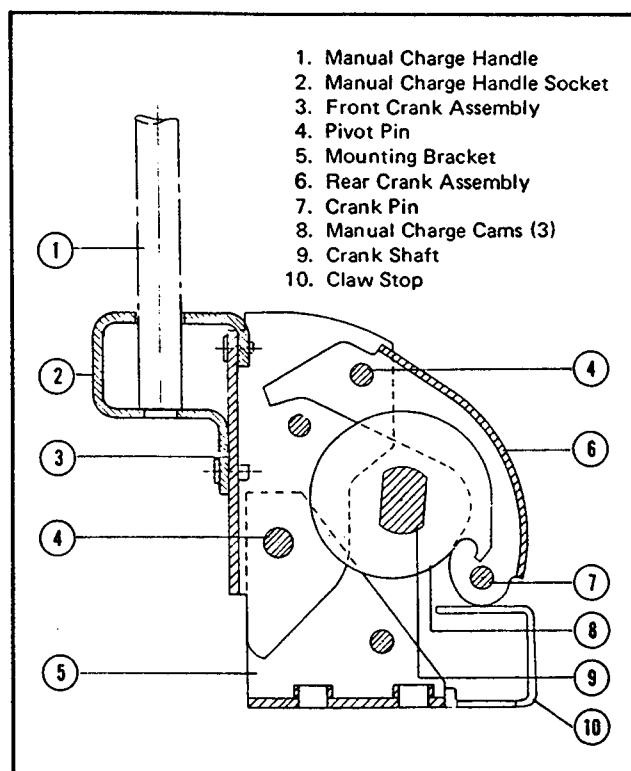

Fig. 21 *Spring-Charging Mechanism on Manual Operated Breakers*
Power-operated breakers are also equipped for emergency hand charging the closing springs. Refer to Figure 21. This operation is similar to that of the motor and oscillator except a separate emergency charge pawl (33) is used to advance the ratchet wheel (17) several teeth on each stroke of the charge handle (34). This device (26) also pivots on the crank shaft.
Figure 21 gives the details of this spring-charging device which is located between the mechanism right hand side frame and the right crank arm. A part of this assembly is the manual charge cam which is rigidly fixed to the crank shaft, the same as the main close cam and crank arms.